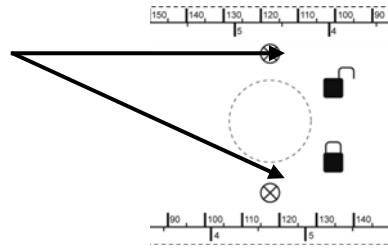

Figure 14: Position of paper sensor
- Make sure that you medium covers the paper sensor. The position of the paper sensor is indicated on the label with the scale (see Figure 14).